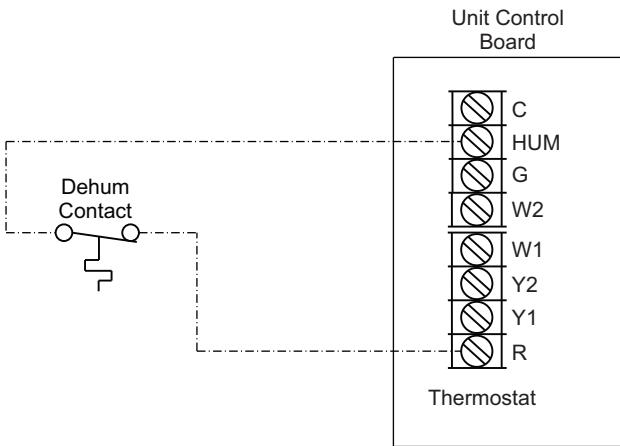

Fig. 42 — Humidistat Connections to UCB (Electromechanical Units)
5. For electromechanical controller units connect one of the leads from the 2-conductor cable to the HUM terminal on the UCB (Unit Control Board). Connect the other lead to the R terminal on the UCB. See Fig. 42.